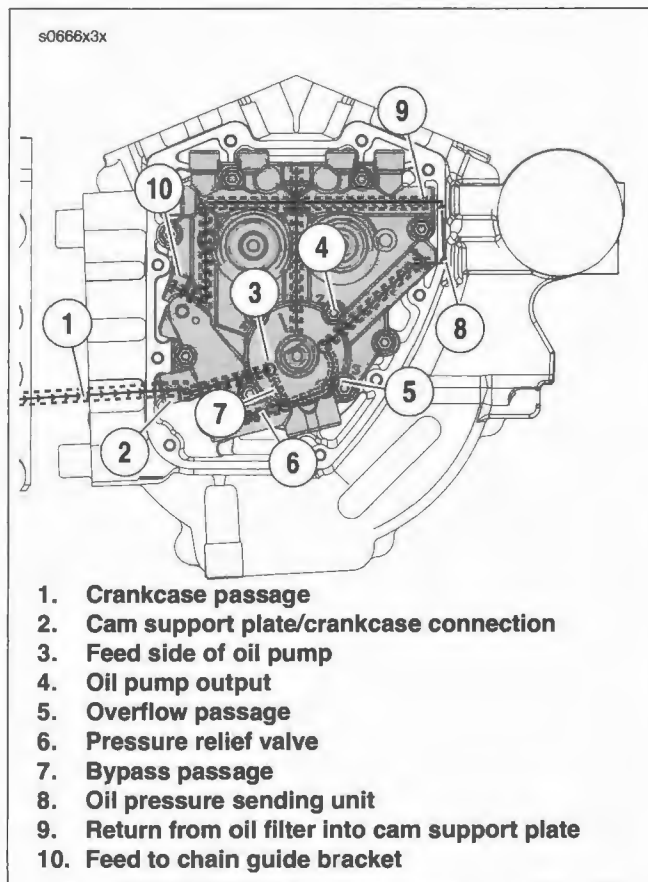

Figure 3-2. Cam Support Plate Oil Flow
See Figure 3-2. Running through a passageway in the crankcase (1), oil exits a hole in the crankcase flange and enters a hole on the inboard side of the cam support plate (2). Passing through a channel in the cam support plate, the oil enters the feed side of the oil pump (3). See 3.5 OIL PUMP OPERATION. The feed gerotors of the pump direct the flow up a second channel in the cam support plate.
After circulating through the oil filter, the flow of oil is directed back into the crankcase through the spigot in the oil filter mount. See Figure 3-2. Exiting a passageway in the crankcase through a hole in the crankcase flange, the flow of oil reenters the cam support plate (9).
- Cam support plate oil flow is shown in Figure 3-2.